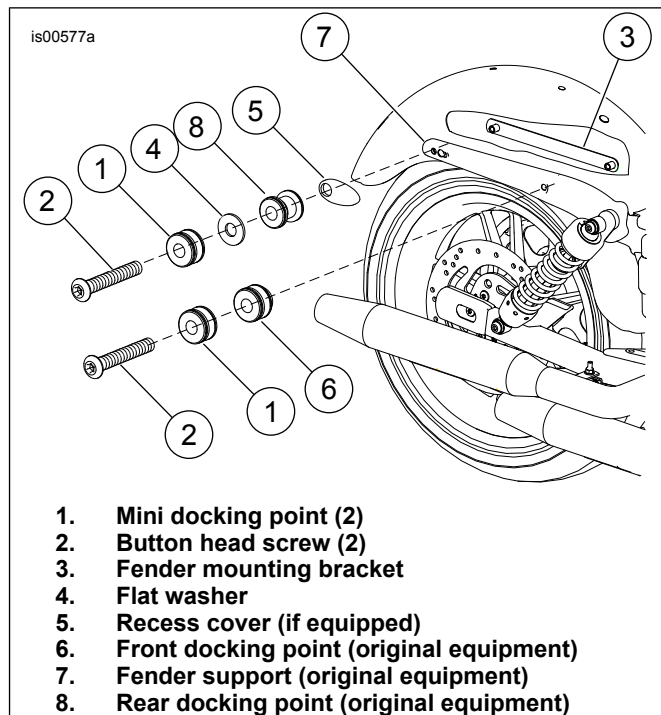

Figure 2. Install Fender Mounting Kit (Models with Detachable Accessories)
6. See Figure 2. **Front Screw:** Install new mini docking point (1) and front docking point (6) onto new button head screw (2). Install screw through front hole of fender support (7) and into fender mounting bracket (3).
7. **Rear Screw:** Install mini docking point (1) and washer (4) onto button head screw (2) from the installation kit. Install rear docking point (8) (with flat side of docking point toward washer) and recess cover (5) (if equipped) onto screw. Install screw through the rear hole of the fender support (7) and into the fender mounting bracket (3).